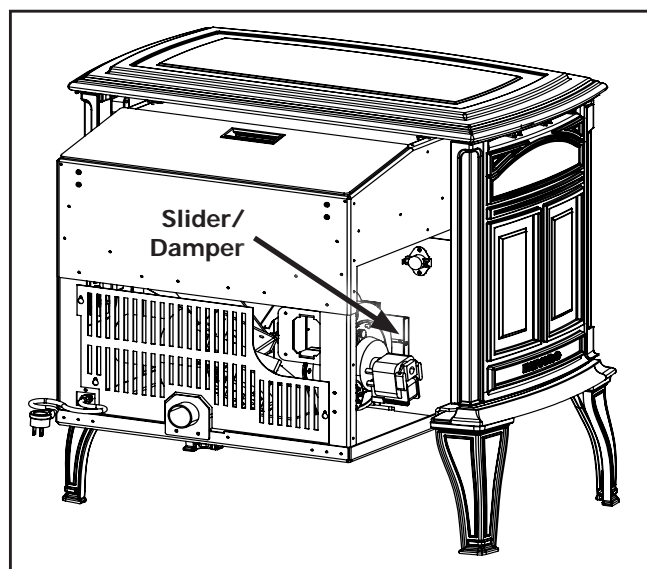

Figure 5: Slider / Damper (side panel removed)
**THE SLIDER / DAMPER HAS BEEN SET AT THE FACTORY.** This is used to regulate the airflow through the pellet stove. The slider damper knob is located on the left cab side (see Figure 5).